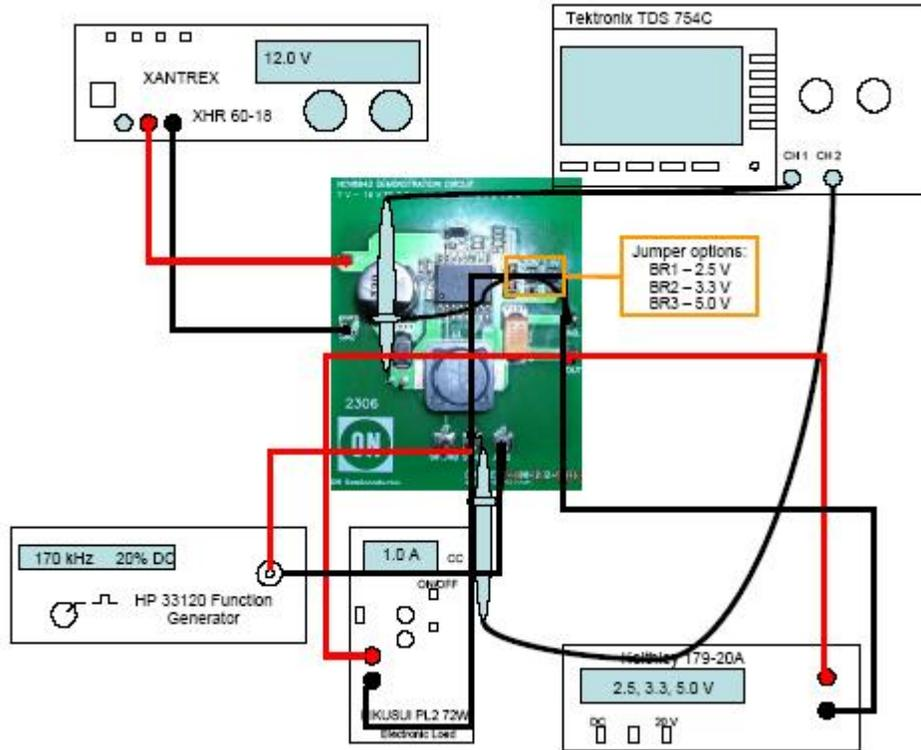

Figure 1: Test Setup
1. Connect the test setup as shown in Figure 1, but with the function generator disconnected. Monitor switch node (SWN, J3) continuously for stability (no jitter).
2. Disable the generator's output and connect it to sync (J6) and ground (J8) (see Figure 1).